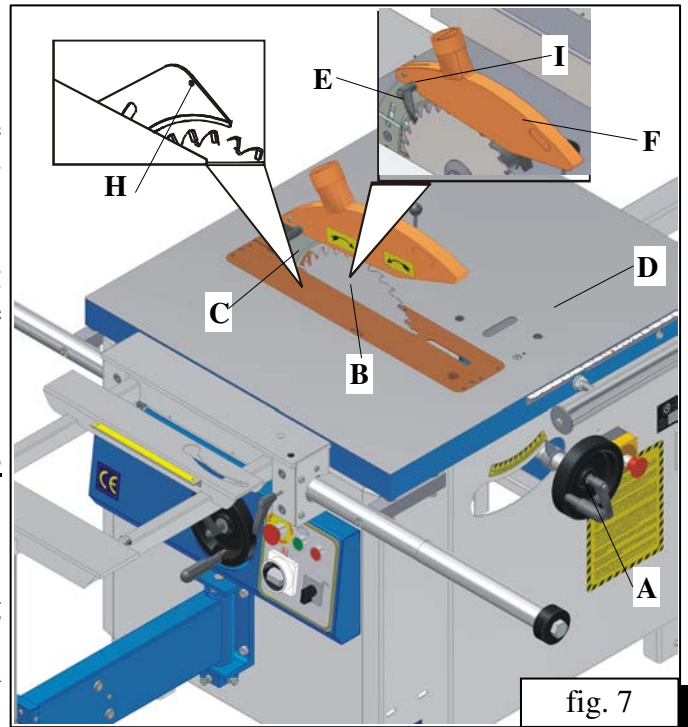
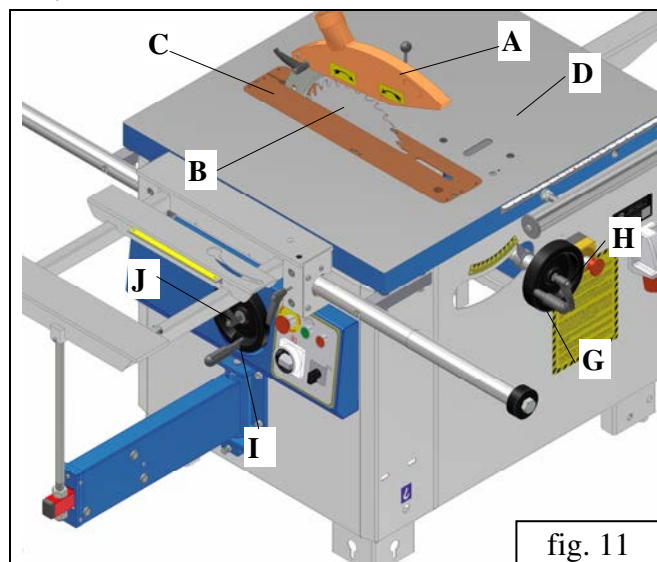

fig. 7
fig. 11
- By means of the hand wheel **A** (fig. 7) raise the circular disk **B** and the splitting cutter **C** over the operation board **D**.
- Release the protecting cover of circular disk **A** (fig. 11) looking the fig. 7.